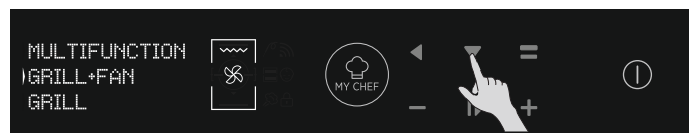

Figure 8
- Select the desired Cooking mode by pressing OK while arrow on the display at desired function. Press DOWN in order to see all available functions. (Figure 8)